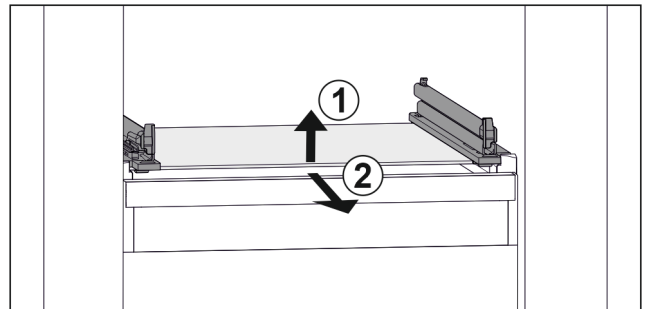

Fig. 73 Example illustration of glass shelf
- ▶ Lift glass shelf at the front. Fig. 73 (1)
- ▶ Take out glass shelf to the front. Fig. 73 (2)